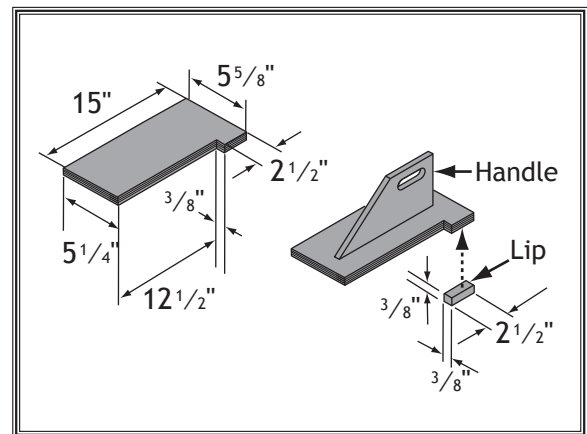

Figure 89. Push block dimensions and construction.
3. Using $\frac{3}{4}$ " material you used in previous steps, cut out pieces for push block per the dimensions shown in **Figure 89**; for handle, cut a piece 10" long by 5"-9" high and shape it as desired to fit your hand.